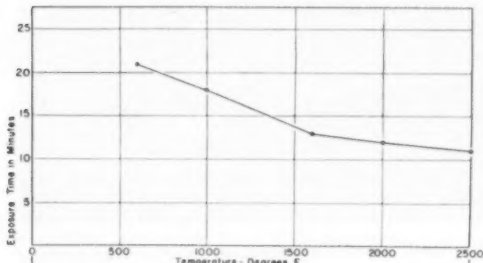

Figure 3 Exposure Time for center and surface of 1½" x 2" test specimen to reach constant temperature after shock heating. After Williams and Kyle.
The eight minute test specimen exposure time at a given temperature was, in 1944, considered satisfactory to bring the test specimen to adequate temperature levels throughout. Later studies [D. C. Williams and P. E. Kyle "Seventh Annual Report on Investigation of Steel Sands at Elevated Temperatures," *Transactions, A.F.S.* vol. 55, pp. 607-619 (1947)] revealed that the exposure time selected was not sufficient (Fig. 3). However, the writer feels that with longer exposure time, only the developed strength would change and that the general interpretation would be the same. Figures 1 and 2 were constructed using hot compressive strength data for increasing and decreasing temperature levels. The dotted line in Fig. 1 connects data points. However there re-
1. Before obtaining hot compressive strength data at decreasing temperature levels, the test specimen exposure times should be in accordance with Fig. 3.